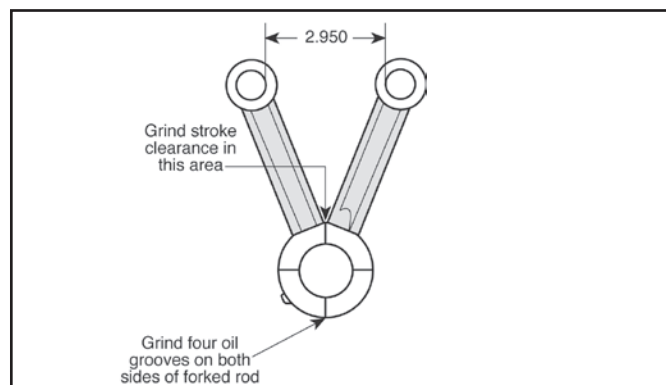

Figure 4
- A. To insure adequate oil on sides of rods and matching thrust surfaces of flywheels, S&S recommends that four grooves be ground on each side of both front and rear connecting rods. **See Figure 4, below.** Make these grooves .020" to .030" deep and .030" to .040" wide and should be ground 90° from each other. After making grooves, remove all sharp edges and burrs with emery cloth.
- B. With rods assembled, measure distance between rods at closest points in wristpin holes. If measurement exceeds 2.950" as shown in **Figure 4, below,** grind female rod at points where male rod makes contact to achieve sufficient clearance.